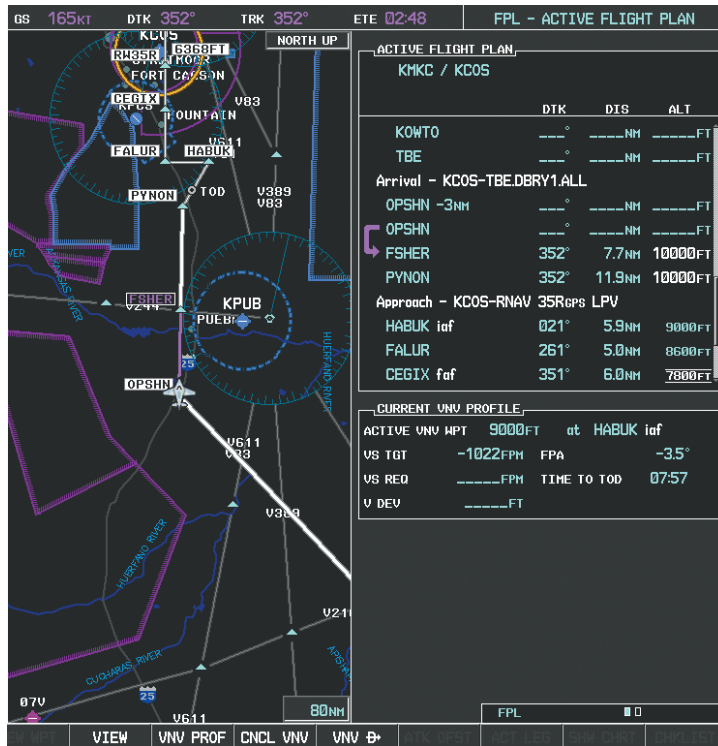

Figure 5-135 Tracking the OPSHN to FSHER Leg
- 19) After passing OPSHN, the next leg of the arrival turns magenta as shown in Figure 5-135. The magenta arrow in the flight plan list now indicates the OPSHN to FSHER leg of the arrival procedure is now active.